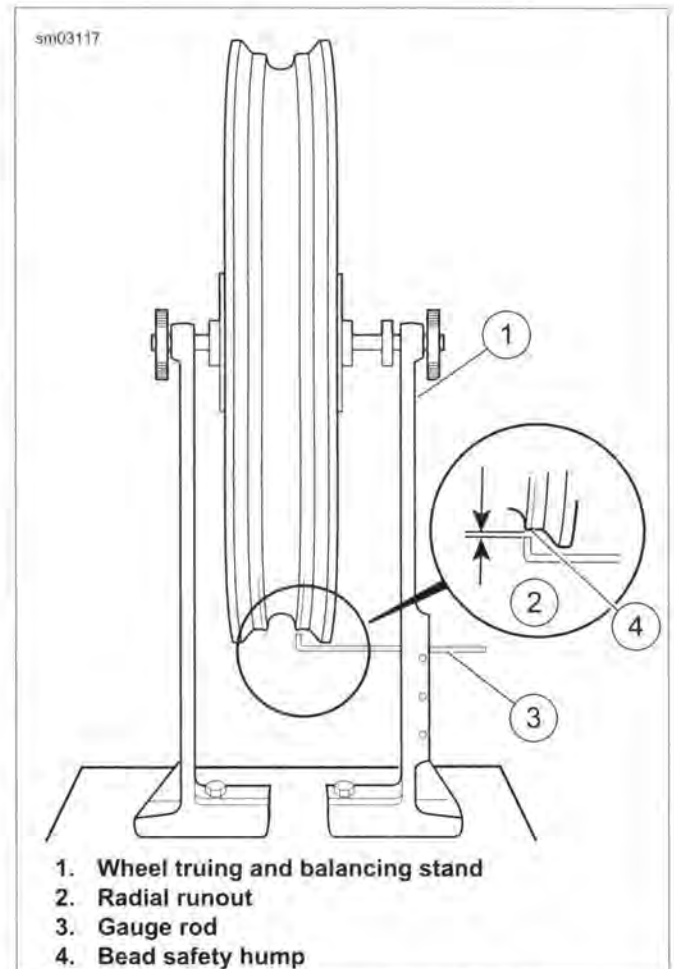

Figure 2-39. Checking Radial Runout
1. See Figure 2-39. Mount wheel in WHEEL TRUING AND BALANCING STAND (Part No. HD-99500-80).